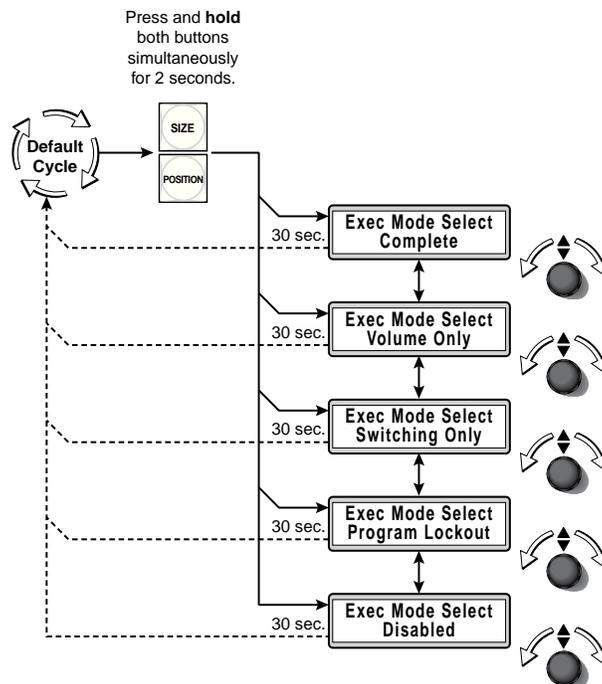

Figure 3-31 — Front panel security lockout flowchart
1. Press and hold the Size and Position buttons until the LCD displays **Exec Mode Select** and **Complete** (approximately 2 seconds) (figure 3-31). Release the buttons.